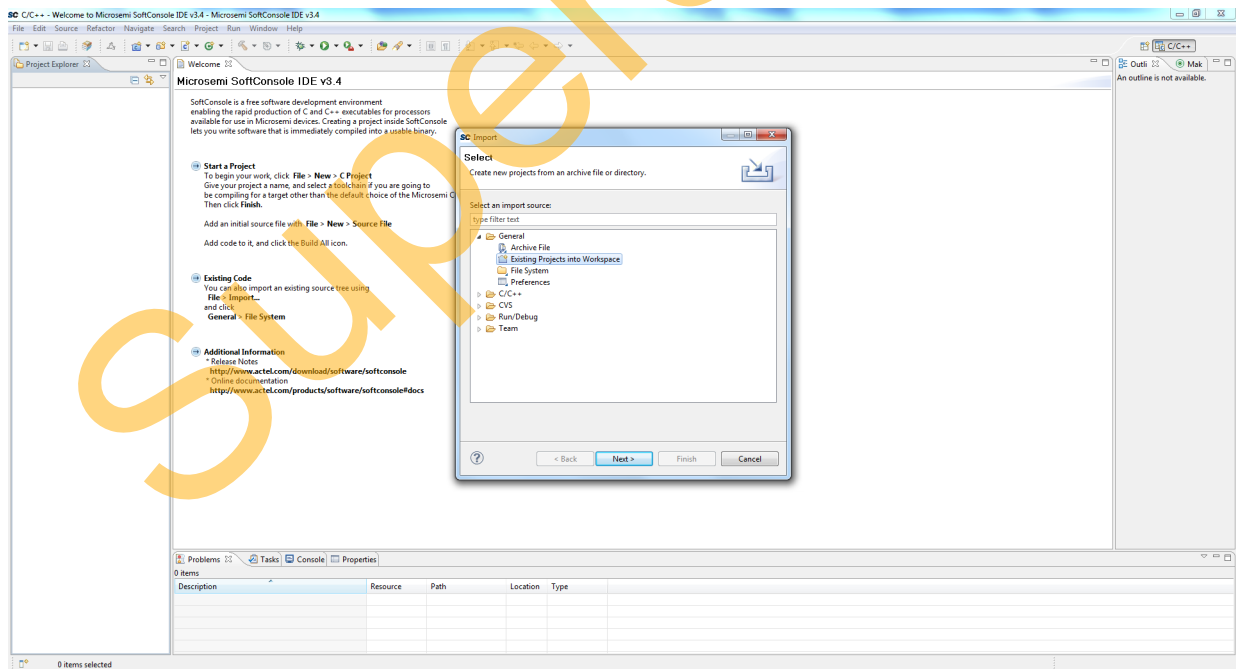

Figure 3 • SoftConsole IDE - Importing Existing Projects
3. Select **General > Existing Projects into Workspace** as shown in Figure 3.